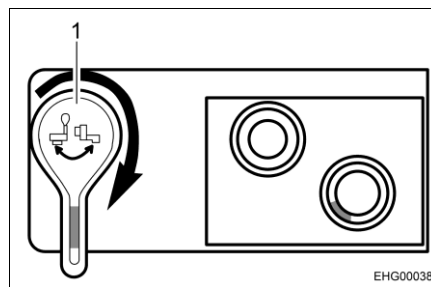

Fig. 85 Drain cock, open
- Open the drain cock. In order to do this, turn the lever of the drain cock through 90° in a clockwise direction (see Fig. 85,1).